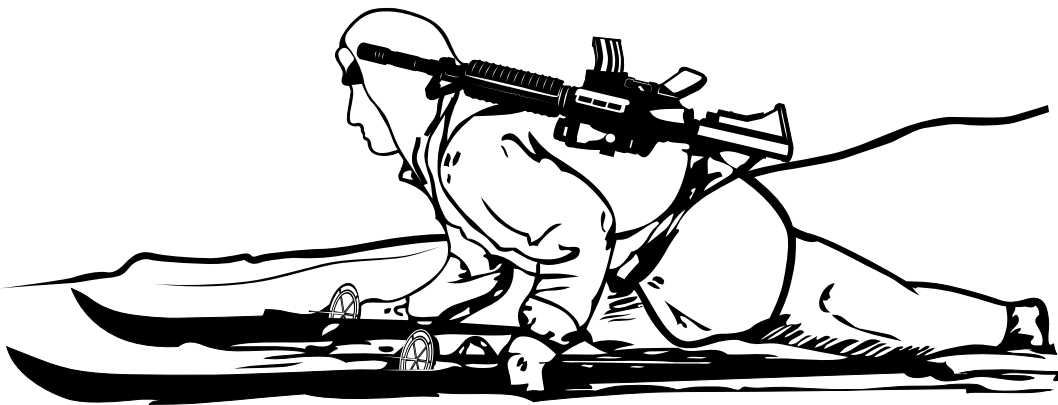

Figure 7-5. Advancing in a Crouching Form.
- Bend low and run, while grasping the bindings and poles together for support. See Figure 7-5.